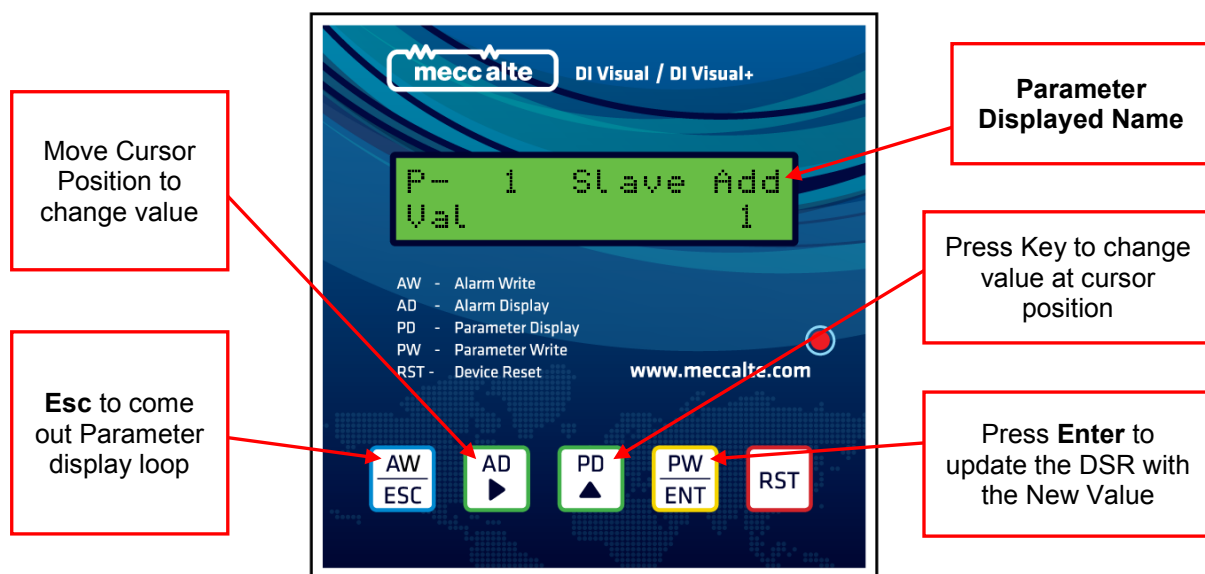

fig. 18
- 2) After successful pulling of the parameter value from DSR the first Address and its Parameter Value will be displayed on the LCD as shown in Fig. 18 below.
- 3) To change value move the cursor using  key as shown in image above to reach to desired position. To increase or decrease the value at cursor position press  key as shown in Fig. 18 above. Once you reach the desired value of the parameter press  key to send the new value to update DSR with new value.